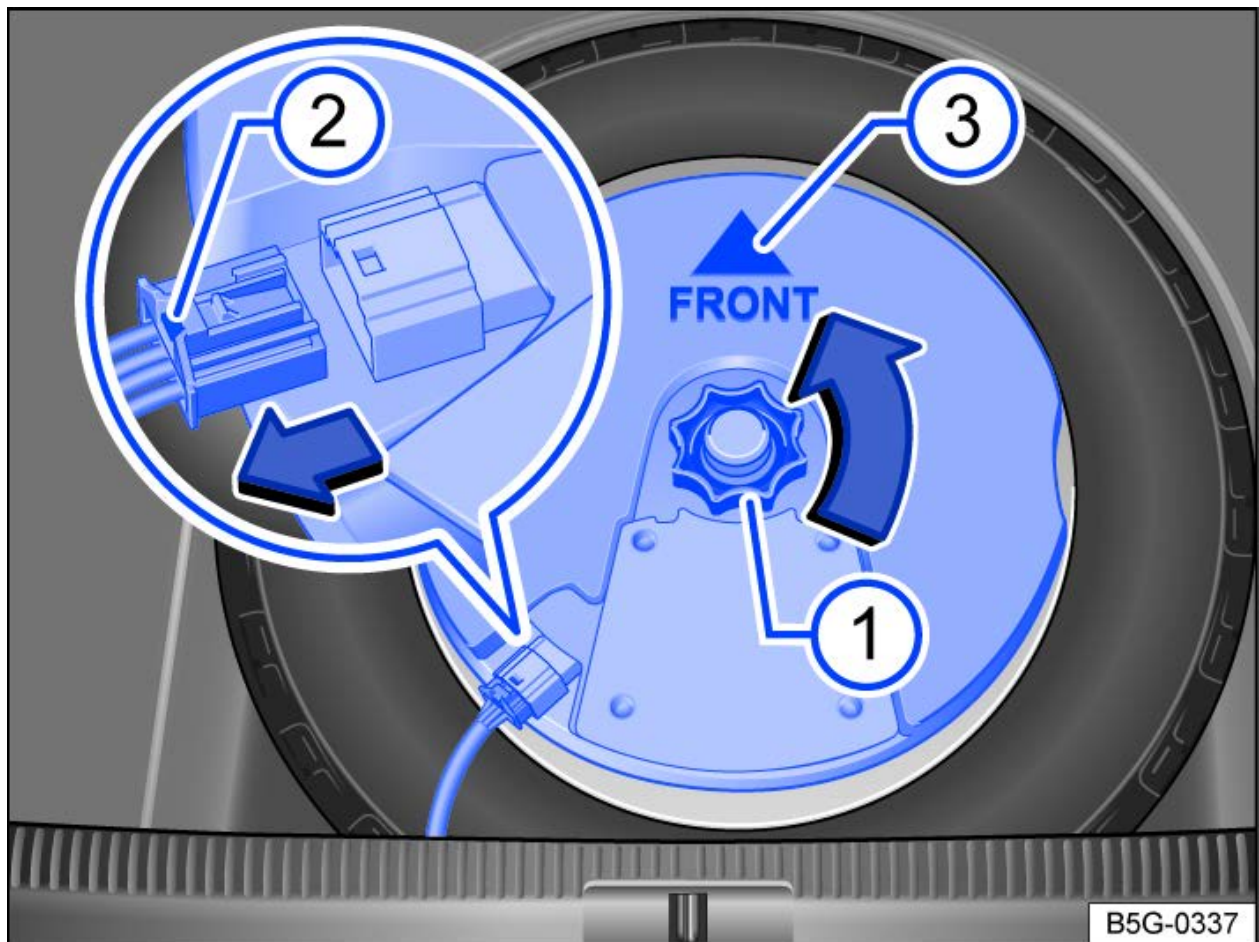

Fig. 2 In the luggage compartment: removing the subwoofer (version 2).
- Remove the handwheel → *fig. 2* (1) in the direction of the arrow.
- To release the connector, press the locking mechanism on the end of the connector → *fig. 2* (2).
- Place the subwoofer carefully in the rim well. The point of the "FRONT" → *fig. 2* (3) arrow symbol on the subwoofer must face forward.
- Insert the connector until you hear the locking mechanism → *fig. 2* (2) lock into place.
- Turn the handwheel → *fig. 2* (1) on the threaded pin in the opposite direction to the arrow until the subwoofer is securely fastened.